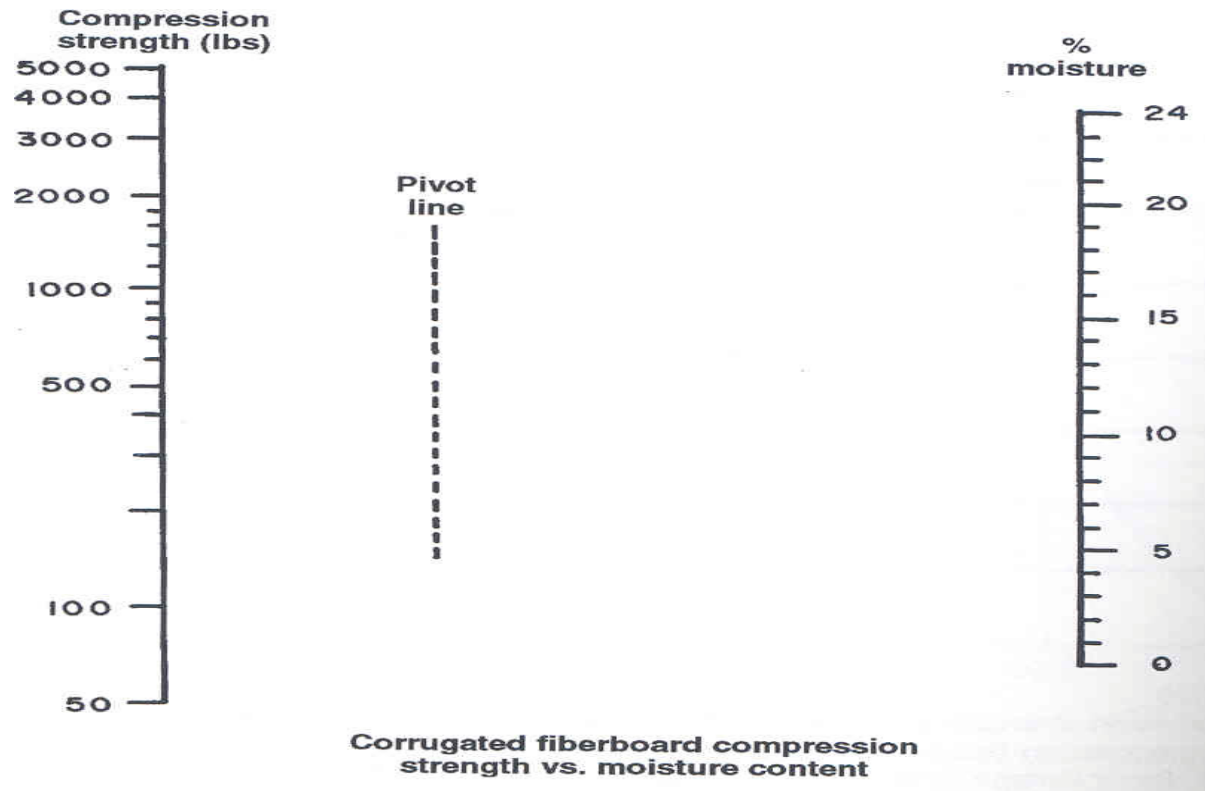

Figure 12.11 Chart for estimating compression strengths at different board moisture contents
- Figure 12.11 contains a chart for estimating the compression strength of corrugated board at different moisture levels.